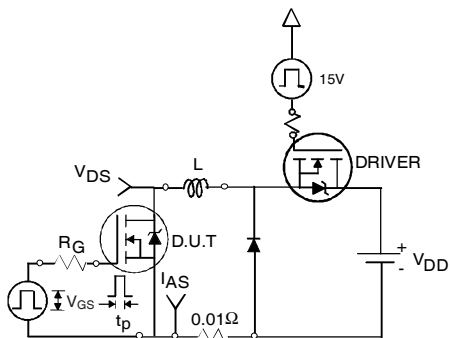

Fig 12a. Unclamped Inductive Test Circuit
3. Equation below based on circuit and waveforms shown in Figures 12a, 12b.
- ④ Pulse width $\leq 300\mu s$; duty cycle $\leq 2\%$.
- ⑤ C_{OSS} eff. is a fixed capacitance that gives the same charging time as C_{OSS} while V_{DS} is rising from 0 to 80% V_{DSS} .
- ⑥ Limited by T_{Jmax} ; see Fig 12a, 12b, 15, 16 for typical repetitive avalanche performance.
- ⑦ This value determined from sample failure population. 100% tested to this value in production.